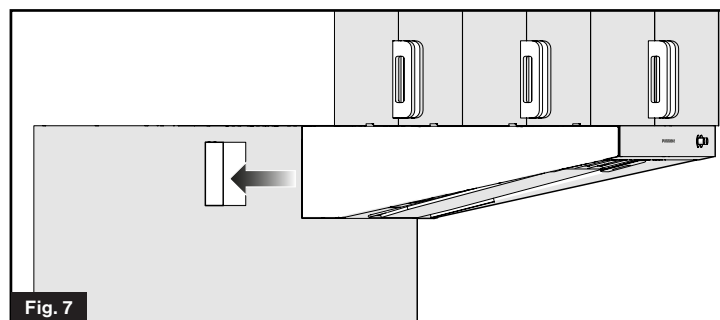
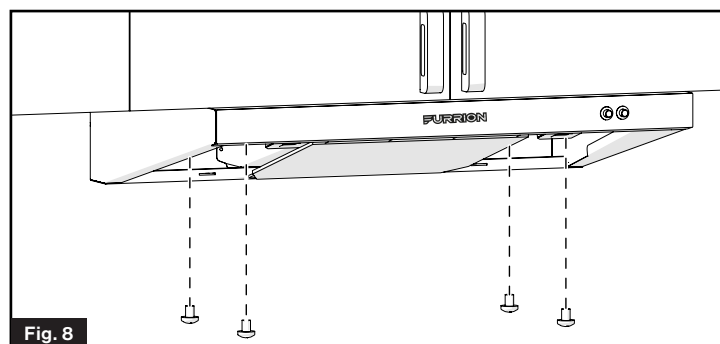

Fig. 7
Fig. 8
7. Insert vent collar at back of the range hood into the cutout area and fix the range hood onto the top cabinet with the four screws provided. (Fig. 7 and Fig. 8)